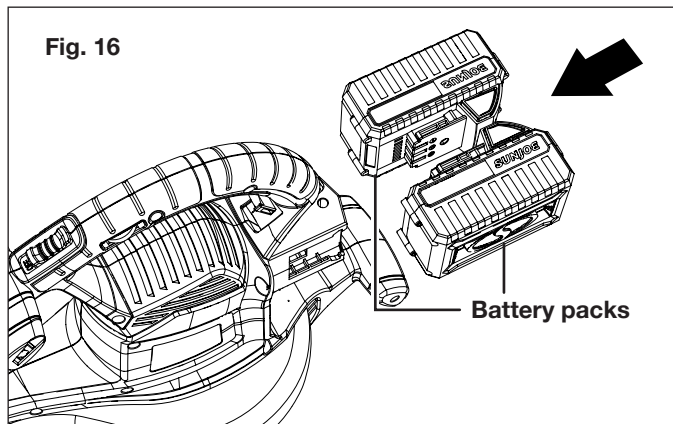

Fig. 16
1. Insert both batteries into the battery compartments (Fig. 16).